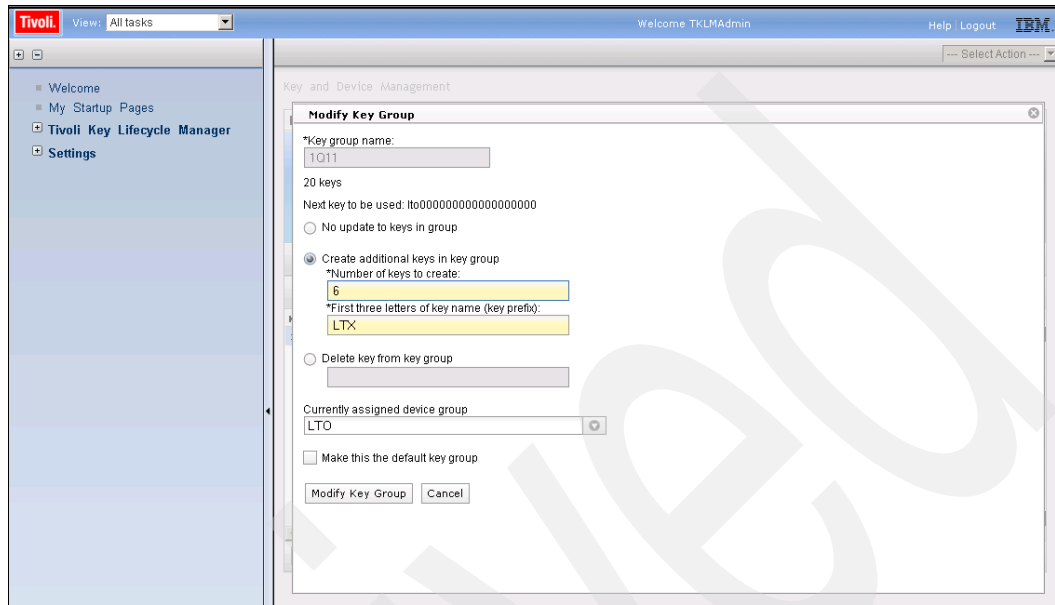

Figure 9-47 LTO key group modified
4. Figure 9-47 shows updates done to this LTO key group. All items except the Key group name can be updated. Make modifications if desired and click **Modify Key Group**, or click **Cancel**.